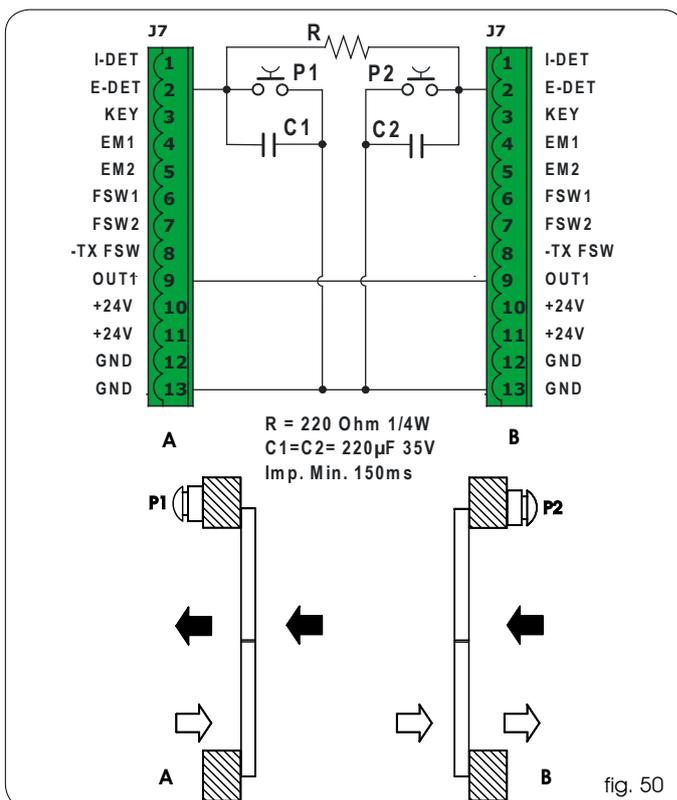

fig. 50
- Make the connections between the J6 terminal boards of the two E100 control boards, of the push-buttons and additional electronic components as shown in figure 50.